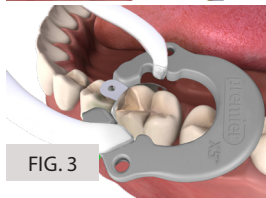

FIG. 3
**2. Placement of Premier X5™ Ring.** Use the ring forceps to grasp and slightly expand the ring. Carefully place the ring as low as possible with the tines of the ring close to the gingival margin and straddling the wedge(s). (Figure 3)